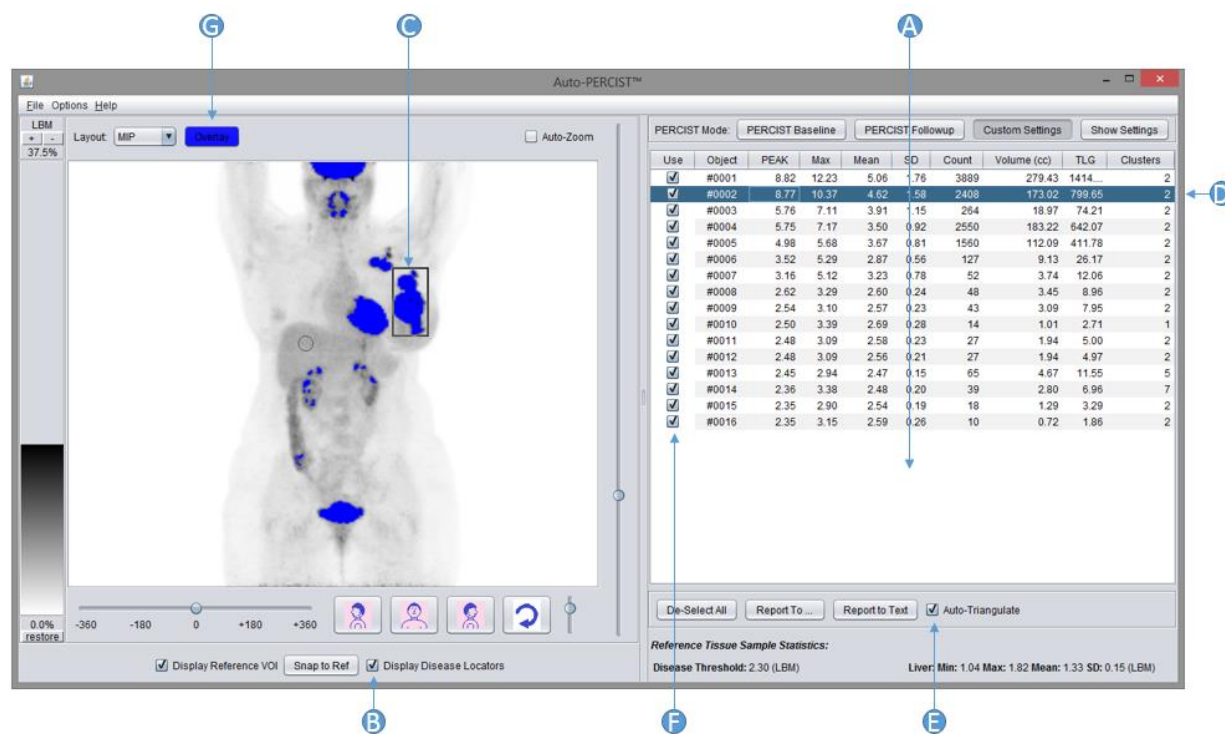

Figure 6-8 Auto-PERCIST™ Results Table
The Results Table (Figure 6-8) (A), located on the bottom half of the right side of the application windows, is where all the action really occurs. In this table, each populated row of data represents a single candidate disease object which *Auto-PERCIST™* has automatically pre-identified based on the specified criteria (the user can manipulate these criteria in the *Options Panel* described in Section 6.3 below). This table is also connected to the *Image Display Window* on the left side of the screen to allow the use to quickly navigate through the study volume.